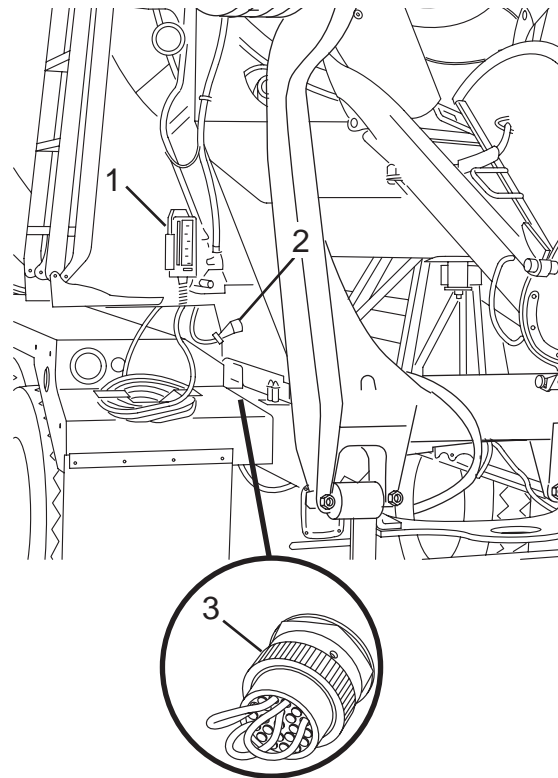

Figure 60
If the rear pendant (Figure 60, Item 1) is lost, or becomes damaged or faulty, a jumper plug (Figure 60, Item 3) must be installed in the rear pendant socket to allow operation of control functions from the cab control box.
2. Disconnect the rear pendant harness connector (Figure 60, Item 2) from the rear pedestal.
3. Install a jumper plug (Figure 60, Item 3) into the rear pendant harness connector. Purchase the jumper plug from www.streetmartparts.com or by calling Revolution Parts and Support at (855) 202-6491.